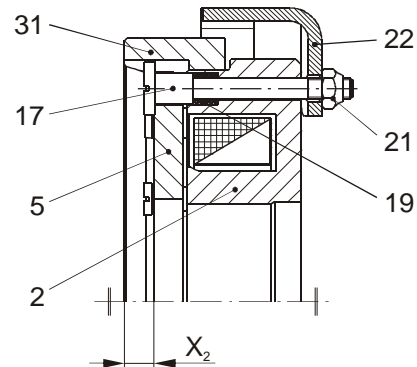

Fig. 4
For the adjustment dimension X2, please see Table 3 and Fig. 4. The distance ring (31) is not adjustable and does not have any inspection holes for the air gap between the armature disk (5) and the coil carrier (2). Therefore, the dimension from the system surface of the distance ring (31) to the facing side of the armature disk (5) is adjusted on this brake Type.